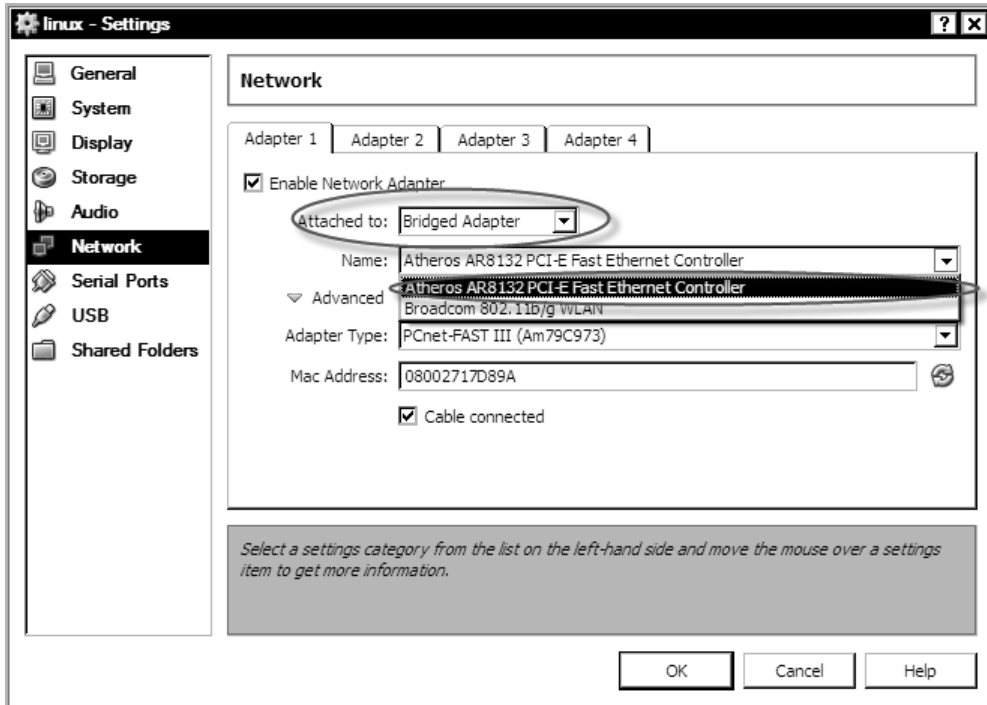

Figure 2-14. Change the network settings.
2. Change the networking so that the virtual machine shares the network adapters on the host machine. To do so, select Network at the left in the Settings panel, and change Attached To to Host Interface (see Figure 2-14). The bottom part of the dialog shows a list that lets you select which host interface should be used by the virtual machine. If the computer where VirtualBox is located has only one adapter, no action is necessary. Click OK to save the settings.